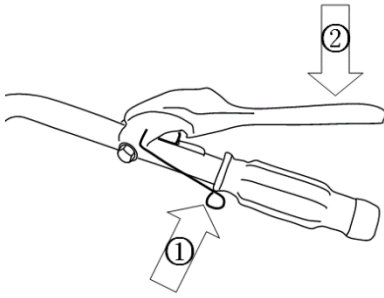

Fig.18
The clutch lever is designed to operation by 2 in-depend actions: Rise the handle lock (1) and push down the lever(2). (Fig.18)